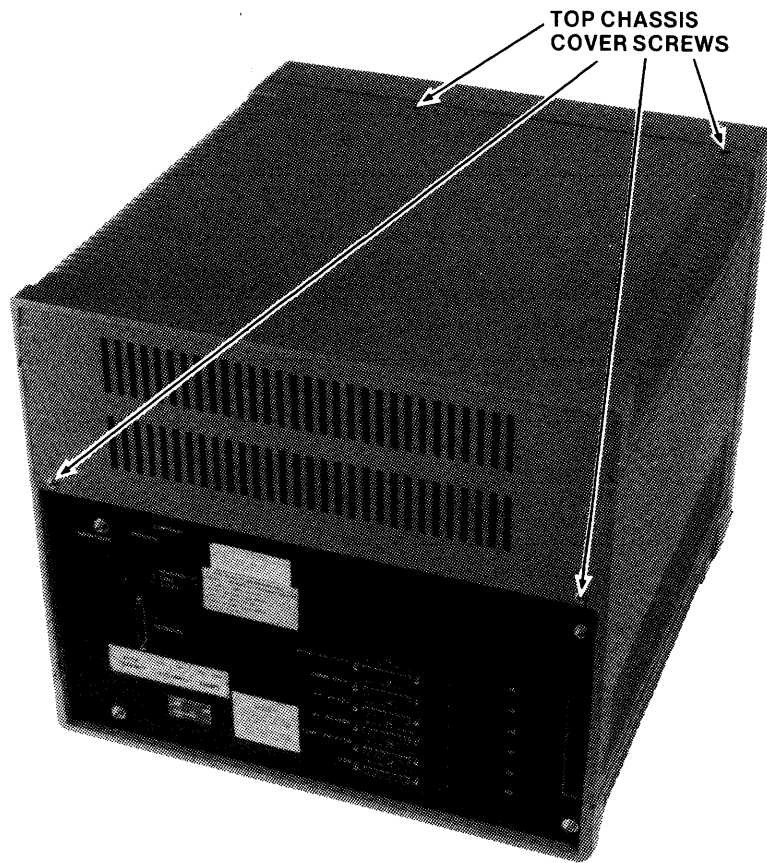

Figure 2-1. Top Chassis Cover Removal
2. Refer to Figure 2-1. Remove the top cover of the chassis by unscrewing the two screws near the front of the cover and the two screws on the rear of the cover. Lift the top cover off.